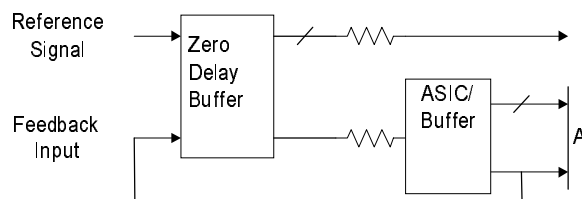

Figure 2. 6 Output Buffer in the Feedback Path
Referring to *Figure 2*, if the traces between the ASIC/buffer and the destination of the clock signal(s) (A) are equal in length to the trace between the buffer and the FBIN pin, the signals at the destination(s) device will be driven HIGH at the same time the Reference clock provided to the ZDB goes HIGH. Synchronizing the other outputs of the ZDB to the outputs form the ASIC/Buffer is more complex however, as any propagation delay in the ASIC/Buffer must be accounted for.